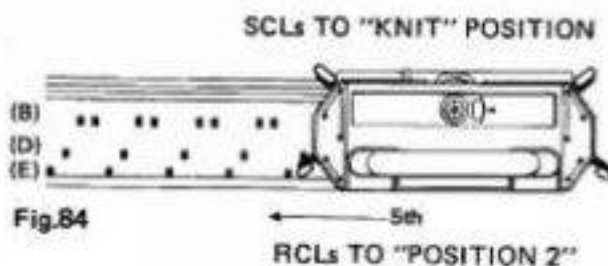

Fig.84
- (d) With carriage on right, replace C.C. with M.C. Push back into position (D) from position (E) every 4th holding needle and, bring forward from position (B) into position (E) every 4th needle starting with 2nd needle from right end. (Fig.84)